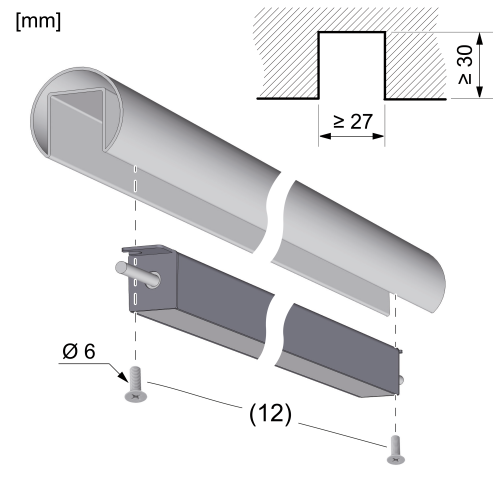

Figure 3: Mounting the luminaire
- In the mounting base material (e.g. handrail), prepare a groove according to drawing (Figure 3).
- Fasten lights inserts with stainless steel screws (12) in the groove (Figure 3).